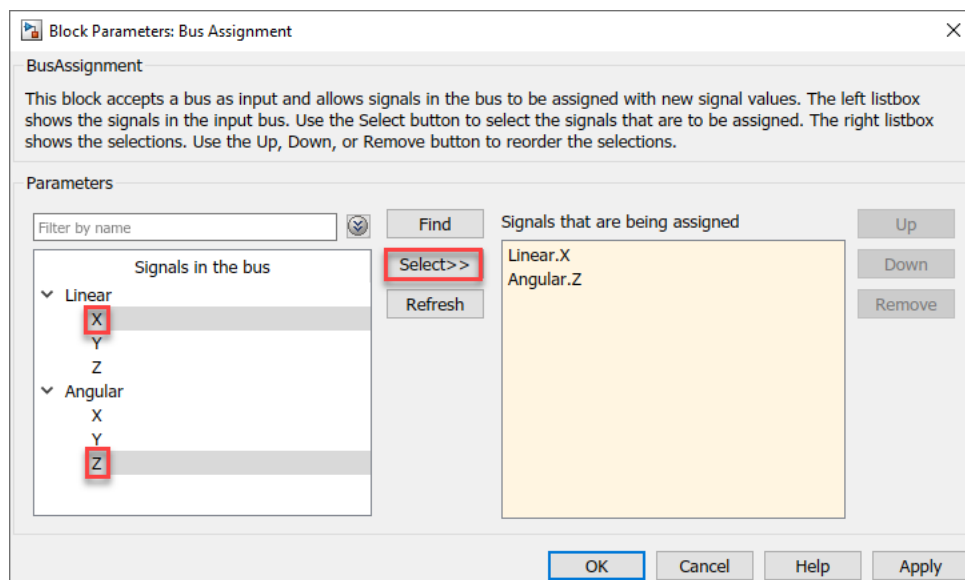

Figure 4: Bus Assignments
4. Double-click the **Bus Assignment** block. Select ??? **signal1** in the right list box and click **Remove**. In the left list box, expand both **Linear** and **Angular** properties. Select **Linear** → **X** and **Angular** → **Z** and click **Select** as shown in Figure 4. Click **OK** to close the block mask.